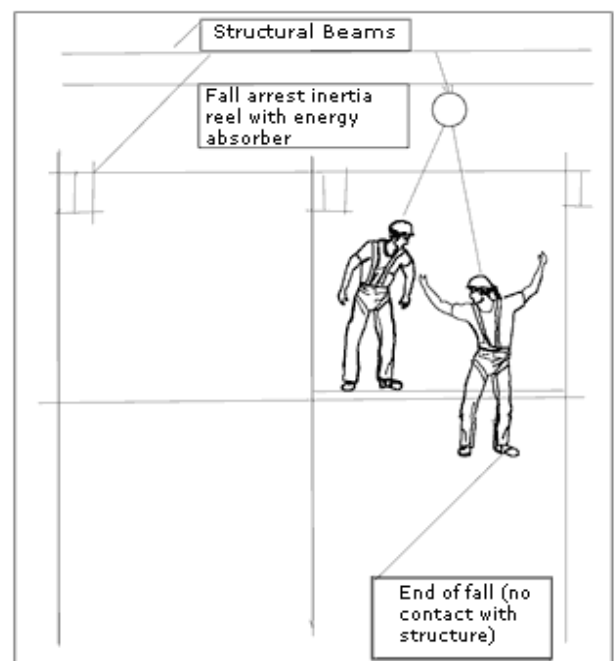

Figure 2: Appropriate use of a harness system in the erection and dismantling of a hung scaffold.
- on hung scaffolds, where the scaffold is constructed from top to bottom and there is nothing for the scaffolder to strike below in the event of a fall (see Figure 2.)